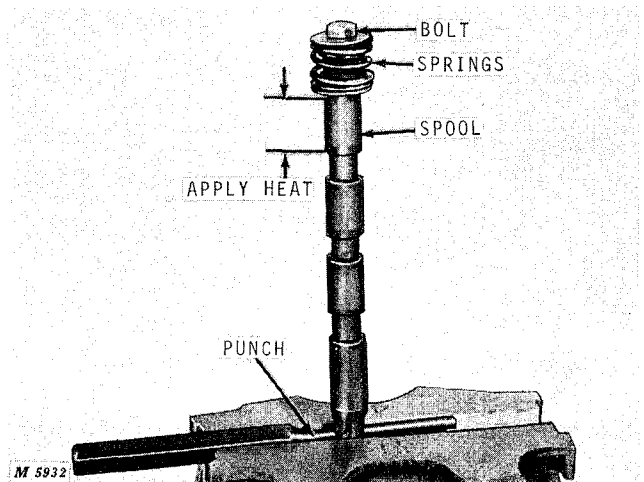

Fig. 10-Removing Spool Centering Springs-In-line Unit
Insert punch through hole in spool and clamp spool in a vise with soft jaws, Figure 10.
**IMPORTANT:** Apply heat to threaded end of spool, Figure 10, before attempting to remove shoulder bolt from spool.